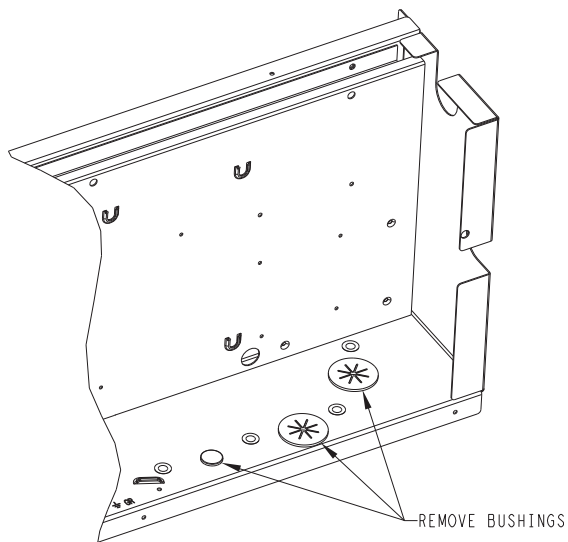

Fig. 8 — Control Box - Bushings to Remove
7. All bushings in the area of the control box where the single point box (SPB) mounts, must be removed prior to securing the SPB to the control box. (See Fig. 8.) Also, for units installed in the snow belt, all unplugged holes in the